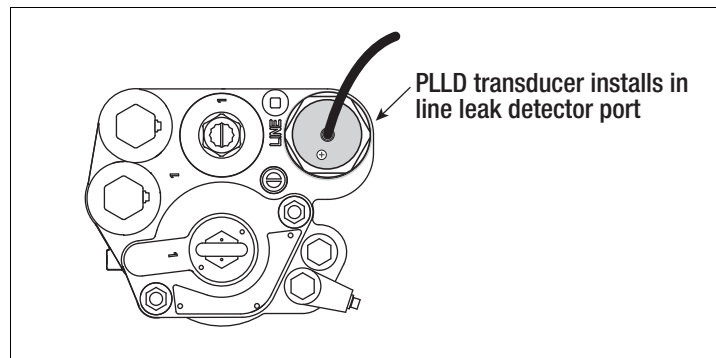

Figure 9. Locating Discharge Port Plug For Line Leak Transducer
2. If the pump does not have a Stage II vapor recovery device installed in the pressurized piping, remove the 2" NPT plug from line leak detector port. Install the PLLD transducer into the 2" NPT port (see Figure 9).